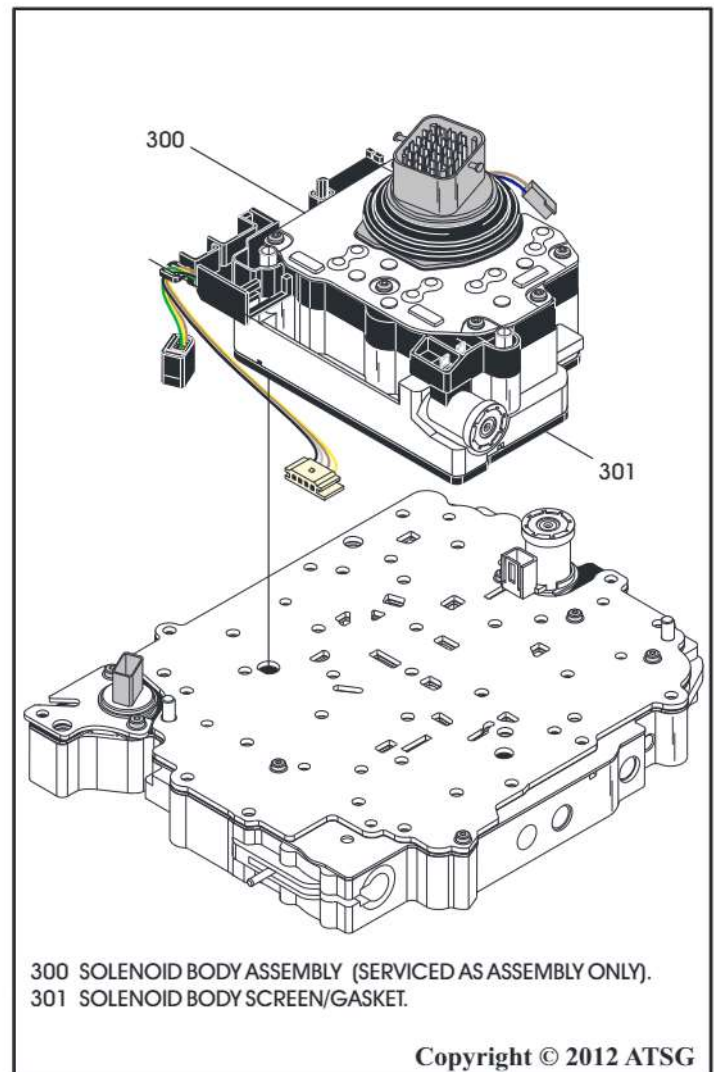

Figure 221
37. Install the completed solenoid body along with the screen/gasket onto the valve body, as shown in Figure 221, and ensure alignment dowels are engaged into support plate.